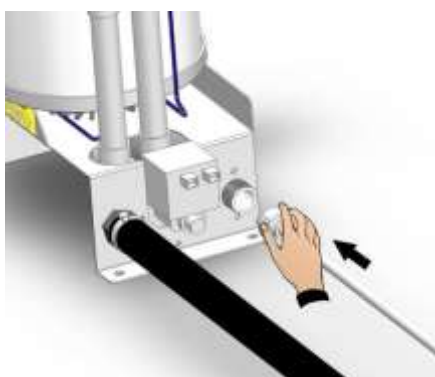

Fig. 21
4. Connect the water charge line to GAS  $\frac{3}{4}$  coupling of the electrovalve (fig. 21 and 22).